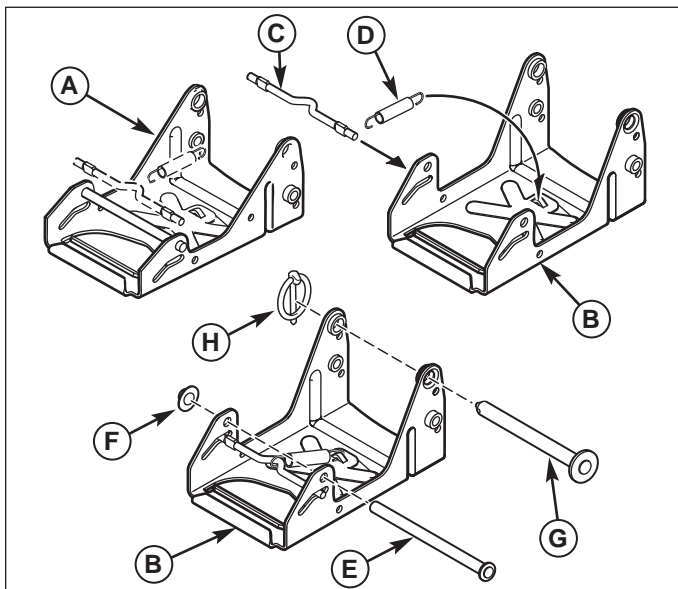

Figure 2 Hitch Replacement
6. Install new rod (E, Figure 2) to new hitch (B), and secure in place with push nut (F).
7. Install new hitch (B) to mower deck using new hitch pin (G) and secure with klik pin (H).
- Loosen but do not remove all four 3/8-16 support plate bolts (E, Figure 2).
22. Tighten all four 3/8-16 support plate bolts (E, Figure 2) to 19.5 Ft. lbs (26.5 Nm)